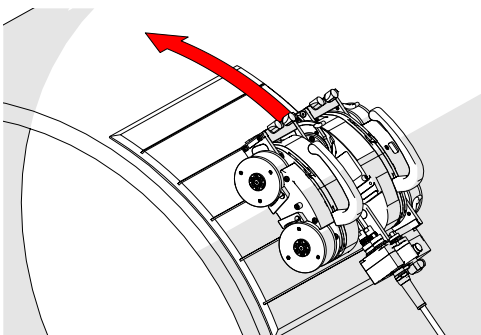
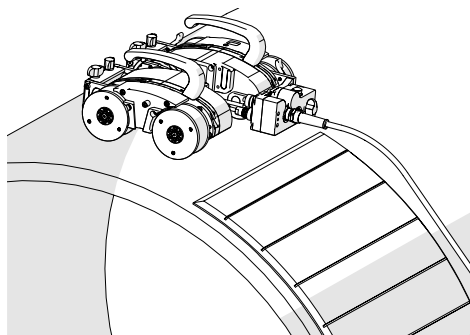

Fig. 285 - Drive crawler off the mat
Fig. 286 - Magnetized to surface
4. Ensure all four wheels of the crawler are held firmly against the installation/removal mat. While holding the crawler, use **Jog Mode** (see "Jog Mode" on page 134) to carefully drive (Fig. 285) the crawler off the installation/removal mat and onto the inspection surface (Fig. 286).
5. Once the crawler is securely on the inspection surface, the user may let go of the crawler (Fig. 286).